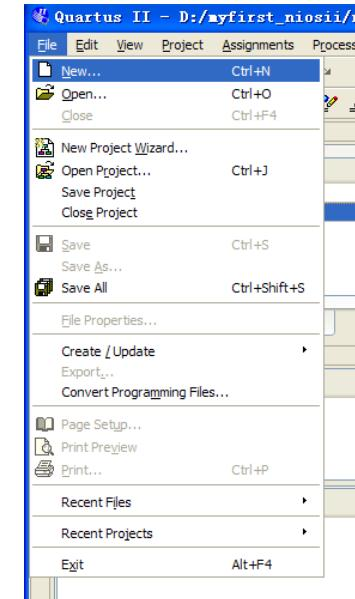
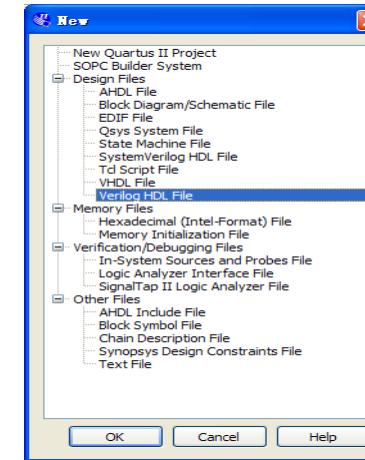

Figure 7-40 New Verilog file
Figure 7-41 New Verilog File
25. Create a new Verilog HDL file, by selecting **File > New, Verilog HDL File** and click **OK**, as shown in Figure 7-40 and Figure 7-41.